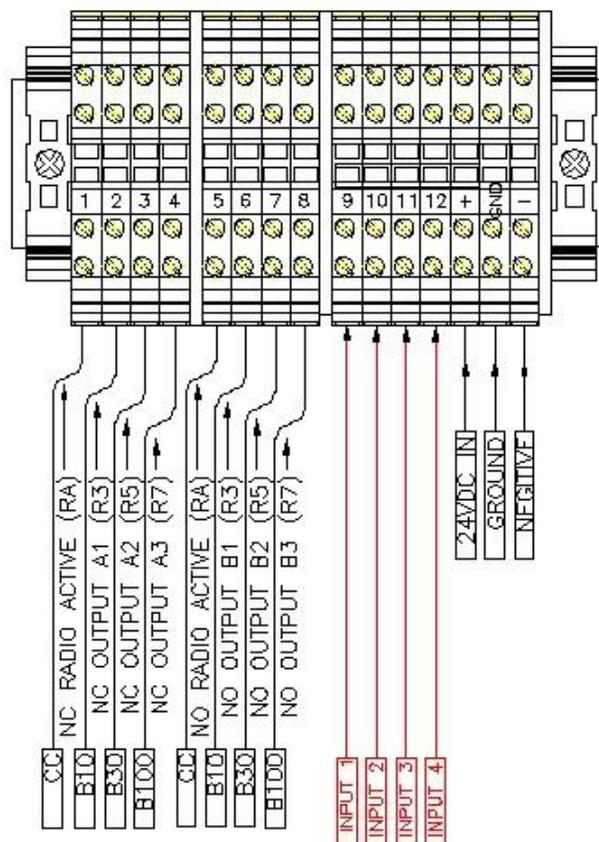

Figure 5 Output Connections
Outputs of the four control relays (RA, R3, R5 and R7) are arranged in two banks as shown in Figure 5. The normally closed (NC) bank is connected to terminals numbered 1-4 and the normally open (NO) bank is connected to terminals numbered 5-8. The relays are active when the radio has received a 3, 5 or 7 click response and controlled as listed in Table 1 depending upon the setting of the “Serial / Parallel” selector.